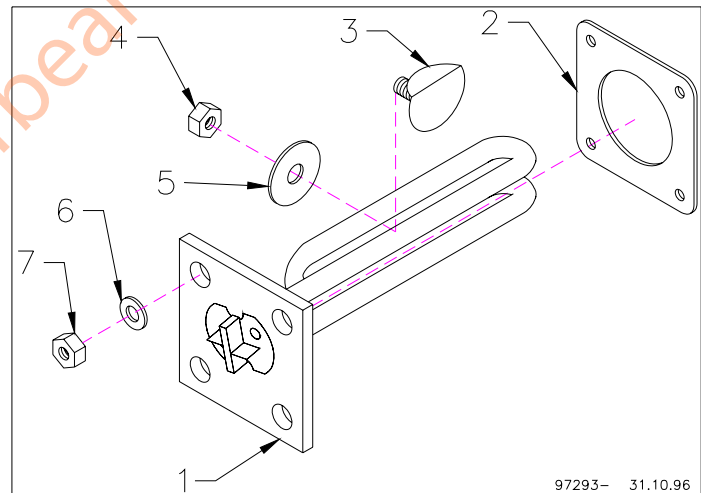

Figure 2
- Remove the boiler tank lid. Referring to Figure 2, reaching inside the boiler and using the 7/16" wrench, remove the nut(4) and washer(5) attaching the heating element clip(3) to the bracket inside the boiler. Move clip out of bracket.
- Remove the nuts(7) and washers(6) attaching the heating element to the copper flashed studs on the boiling tank. Remove the heating element by sliding element out the front of the tank. Remove the old heating element silicon gasket(2). Gently bend the heating element to remove the clip.
- Place new heating element gasket on boiling tank. Place new clip in heating element and insert new heating element into boiling tank. Fasten element with new washers(6) and new plated nuts(7).
- Fasten heating element clip to bracket inside boiling tank with new washer(4) and stainless steel nut(5).